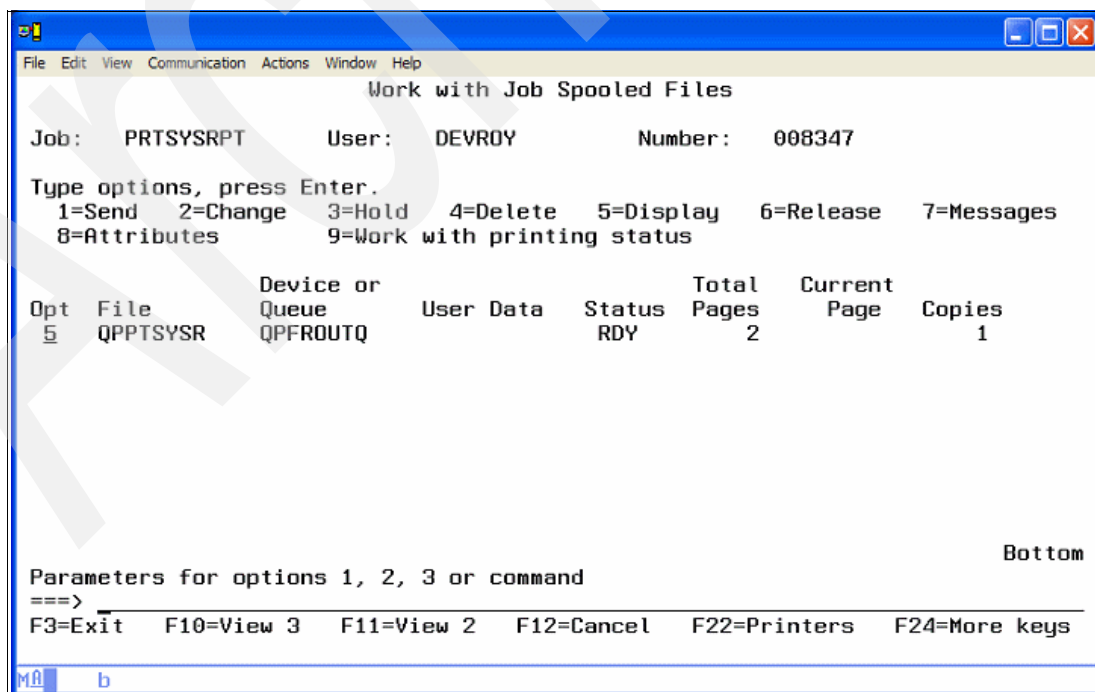

Figure A-28 Work with Job Spooled Files panel
- The report is created as a spooled file found in the output queue for the user submitting the request. On the Work with Job Spooled Files panel (Figure A-28), select **5=Display** to display the system report that was generated.